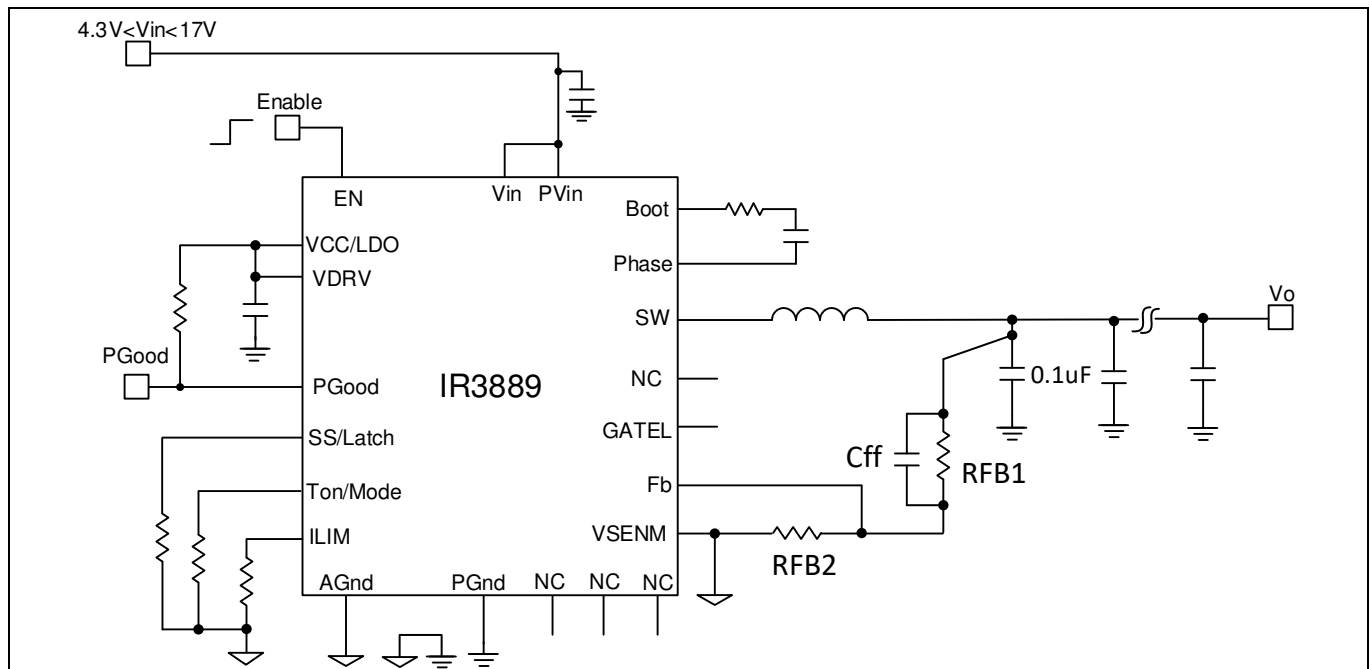

Figure 23 Single-ended V_o sense configuration
- Single-ended Vo sensing is often used for local sensing. To implement this configuration, following design guidelines should be followed, as illustrated in Figure 23.